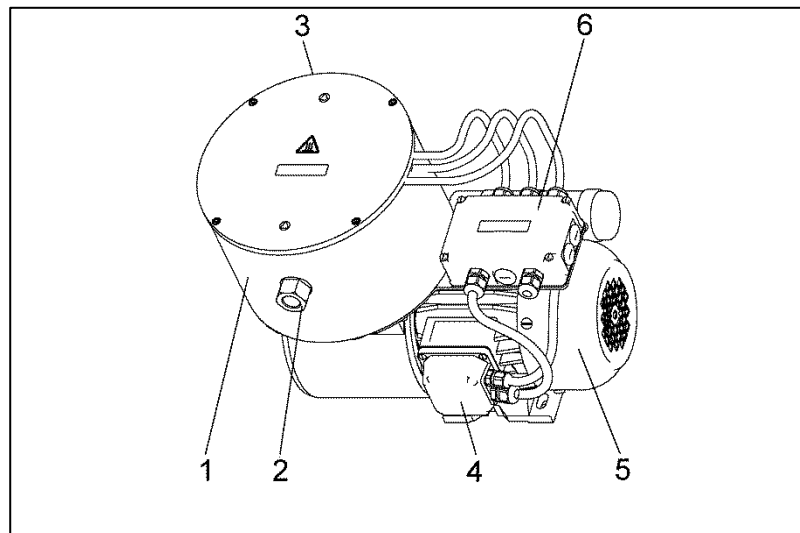

Fig. 2: N 0100_T.11 E
1. Take off the electric supply cover (see Fig. 2, position 6); to do this, release the four screws.